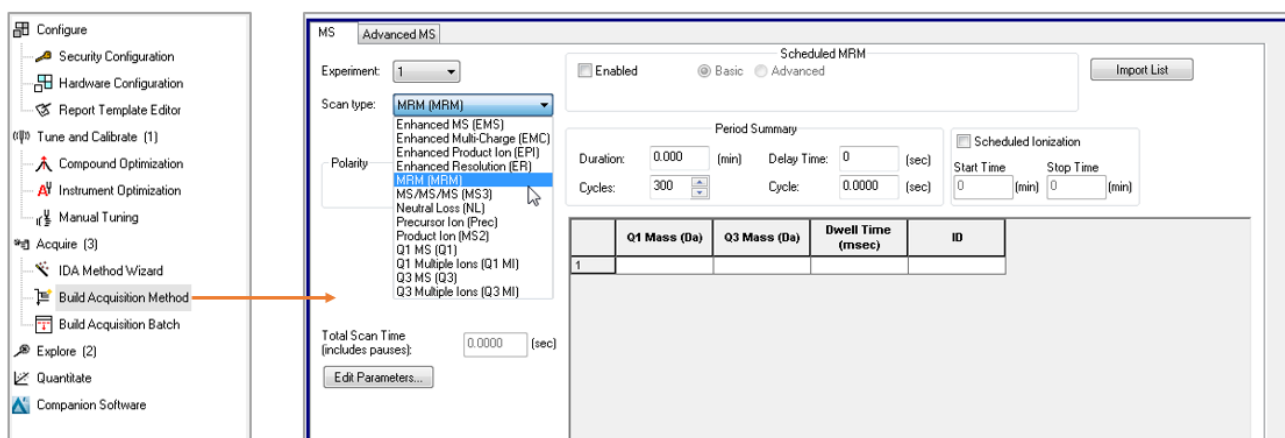

Figure B-1: Building an acquisition method in Analyst software.
3. On the left panel under *Acquire* (**Figure B-1**), double click *Build Acquisition Method*. From the drop-down menu for scan type, select *MRM*.